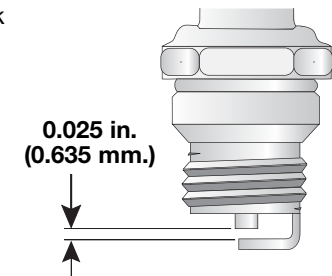

Fig. 34
4. Replace cracked, fouled or dirty spark plug. Set the air gap at 0.025 in. (0.635 mm.) using a feeler gauge (Fig. 34).